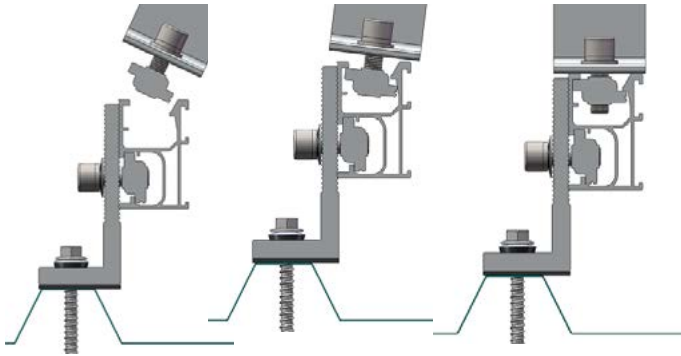

Figure 11
2) Fix the Rear Leg into the top channel of ECO Rail, then fasten the Rear Leg after the position is adjusted properly as shown in Figure 11 and 12.